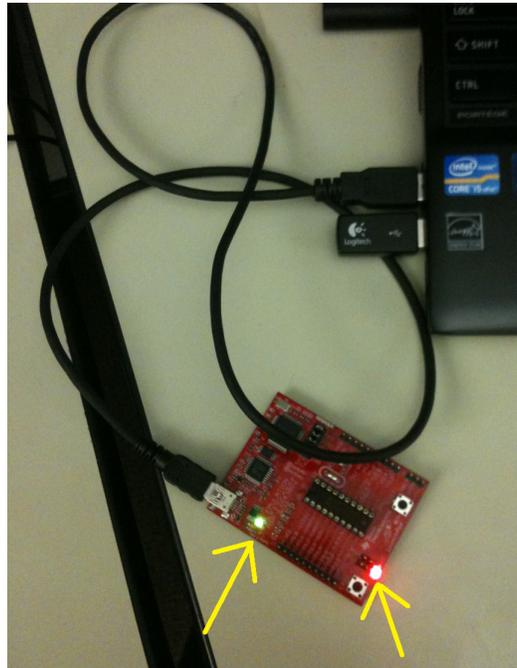

Figure 11. LaunchPad LED Indicators
3. Connect the LaunchPad to a computer with a USB-to-mini cable. A green LED and a red LED now turn on as shown in Figure 11.